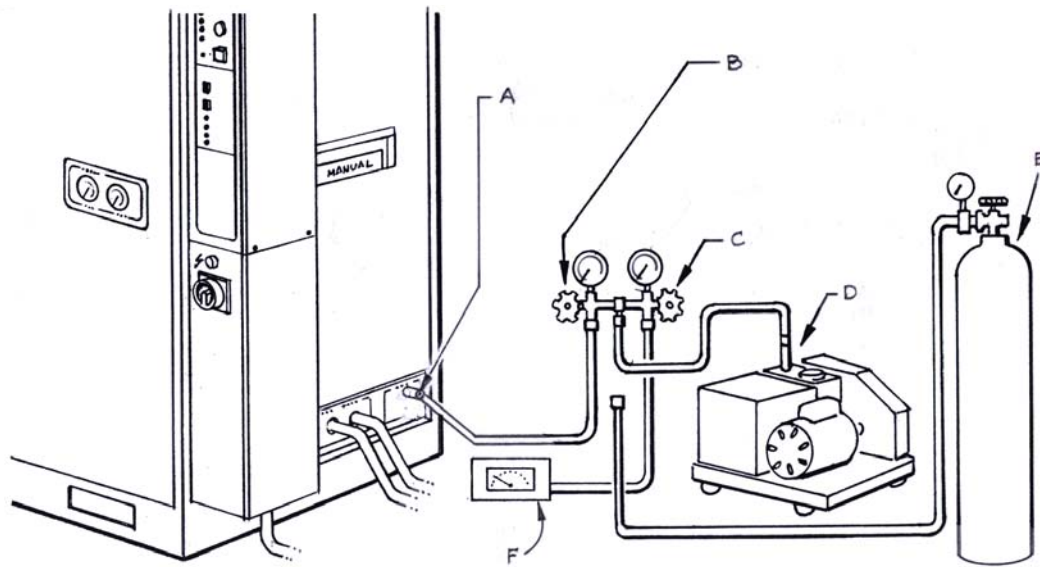

Figure 3-20: Refrigerant Line & Cryosurface—Evacuation Set-up
1. Evacuate the refrigerant line and cryosurface to 0.1 torr (13 Pa). (See Figure 3-20.)
1. Connect the nitrogen cylinder to the manifold's center hose. (See Figure 3-20.) Pressurize the refrigerant line and cryosurface to 10-20 psig (70-140 kPa).
NOTE: *The temperature from a single thermocouple in Figure 3-20 can be displayed at a remote location through the remote connector. To accomplish this see section 3.8.2 Additional Instructions for Remote Temperature Indication.*